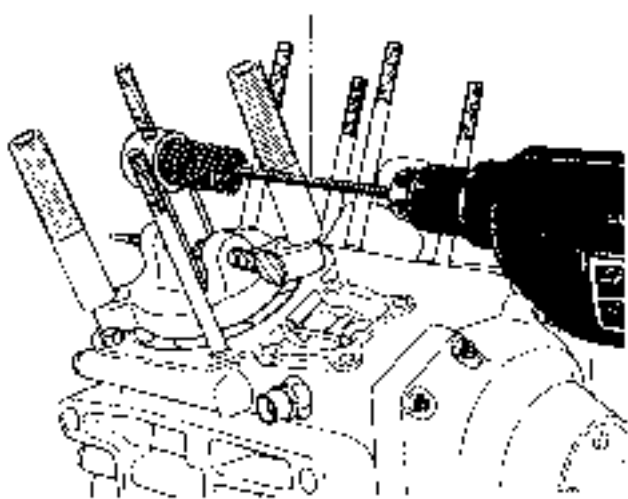

Figure 3-127. Honing Upper Connecting Rod Bushing
1. See Figure 3-127. Obtain the CONNECTING ROD BUSHING HONE (Part No. HD-42559) and REAMER LUBRICANT (Part No. HD-30064).